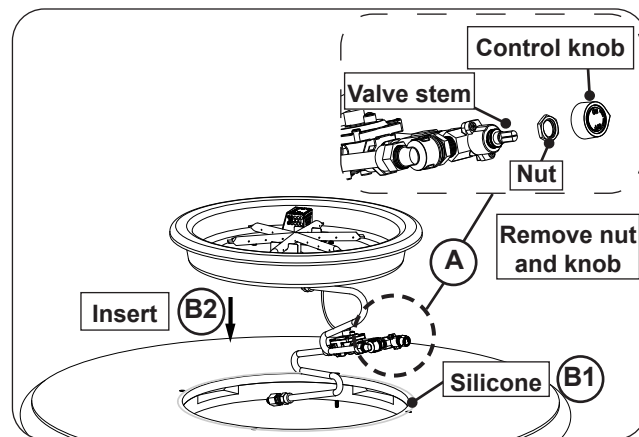

Fig. 26-3 Place burner
5. Locate the valve and burner assembly. Remove the control knob. Use a 20mm socket to remove the nut attached to the valve stem. See Fig. 26-3, A.
Then apply silicone along the top, and then drop the valve and burner assembly into the opening in the center of the firetable top. See Fig. 26-3, B1 and B2.